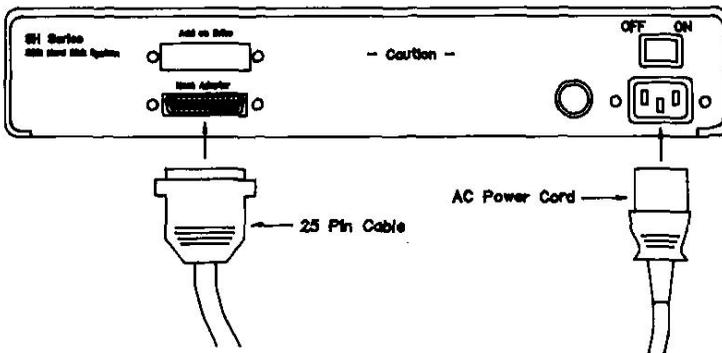

Fig. 5 - Hard Drive Connections
- 8) Attach the remaining end of the 25 pin data cable to the connector marked "Host Adaptor" on the back of the hard drive enclosure. See Fig. 5. Again, secure the cable with the attached screws.